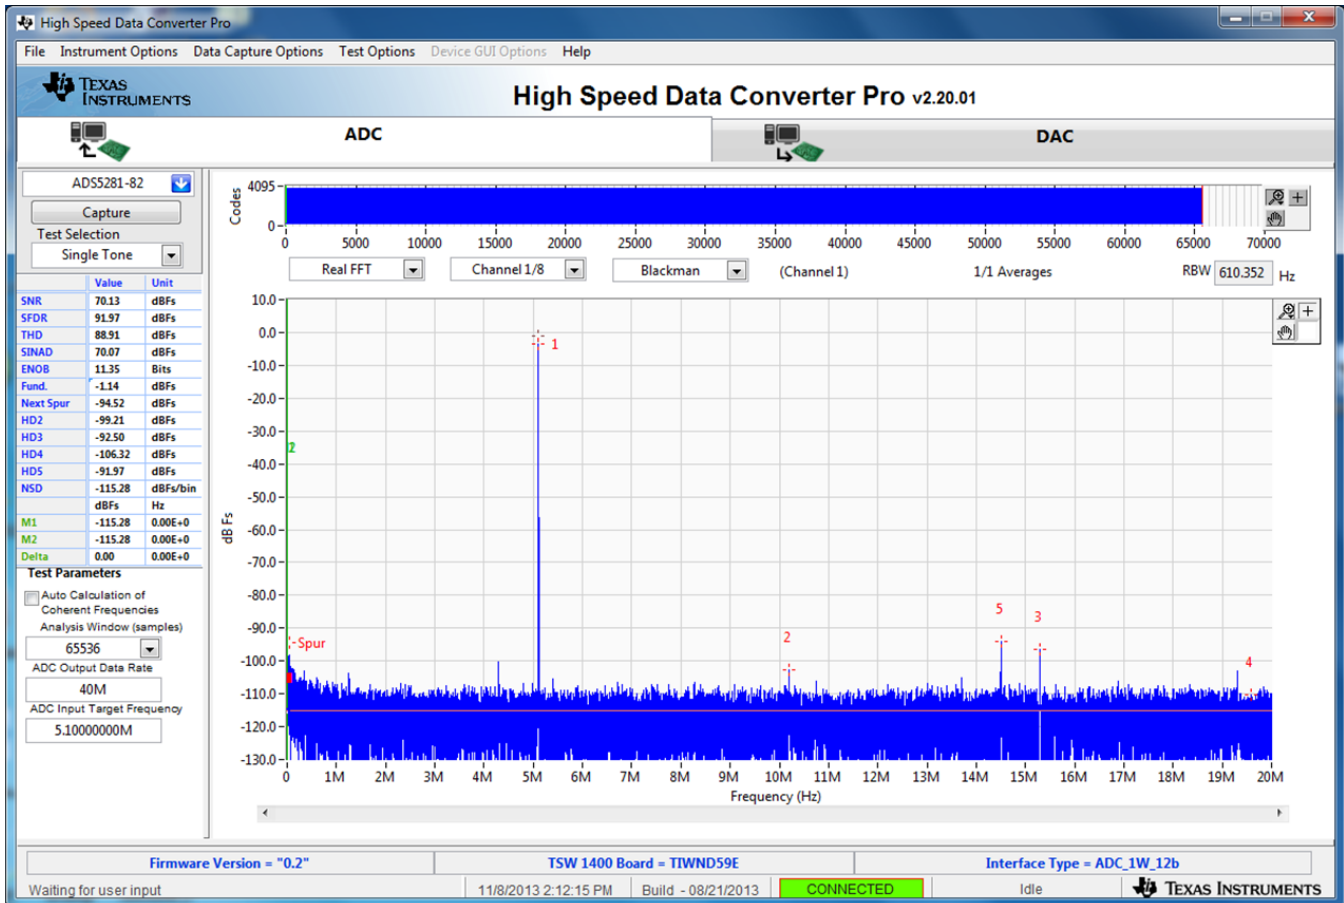

Figure 8. ADC5281 Single Tone FFT Capture Results
- Click on the “Capture” button to perform a data capture. The results should look similar to those shown in Figure 8.